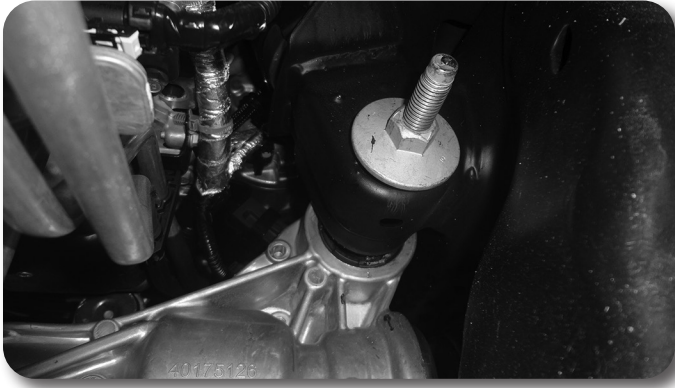
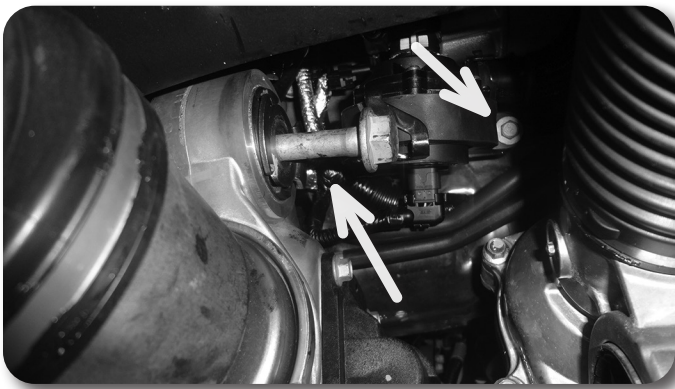

Figure 19A
Figure 19B
26. Remove the nut from the passenger's side differential mounting bolt Fig. 19A. Carefully lower the differential to the ground while removing the long bolt for the passenger's side differential mount Fig. 19B. Discard the bolt, save the nut
The bolt holding the actuator may need to be removed in order to aid in removal of the long bolt for the differential. The bolt is on the right side in Figure 19B. Reinstall the bolt for the actuator after it has been removed. It also helps to push the rear of the differential upwards to point the bolt head downwards to aid in removal.